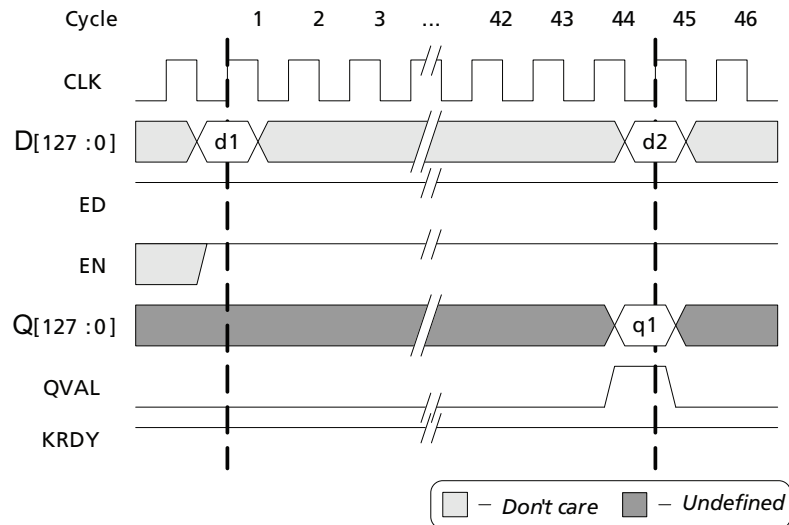

Figure 3-3 · Example Encryption Sequence
Follow the steps below to begin the encryption data process (Figure 3-3 on page 15):
2. Set D[127:0] to the plaintext data to be encrypted (d1 in Figure 3-3).
After 44 clock cycles of the EN input being held continuously at logic '1', the QVAL signal will transition from logic '0' to logic '1' and remain valid for one clock cycle. This indicates that valid ciphered (encrypted) data (q1 in Figure 3-3) is available on the Q[127:0] outputs. The encrypted data is only available during clock cycle 44, so you must register or latch the data on Q[127:0], using the QVAL signal as a qualifying register enable or latch enable. As shown in
Figure 3-3, continuous encryption is possible. For example, the second 128-bit plaintext data word (d2 in Figure 3-3) can be immediately encrypted by setting the D[127:0] input to d2 on the rising clock edge of clock cycle 45.